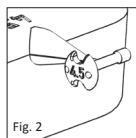

Fig. 2
■ **Fig. 1a, 1b/2** The sizer disk (Fig. 1a, 1b) for total prostheses has eight individual satellitishaped sizers of different lengths (3.0-7.0 mm). The relevant length is marked on the back of each sizer (Fig. 2). The cutouts and holes are designed to reduce the weight and to provide a clearer view when conducting measurements in the middle ear.